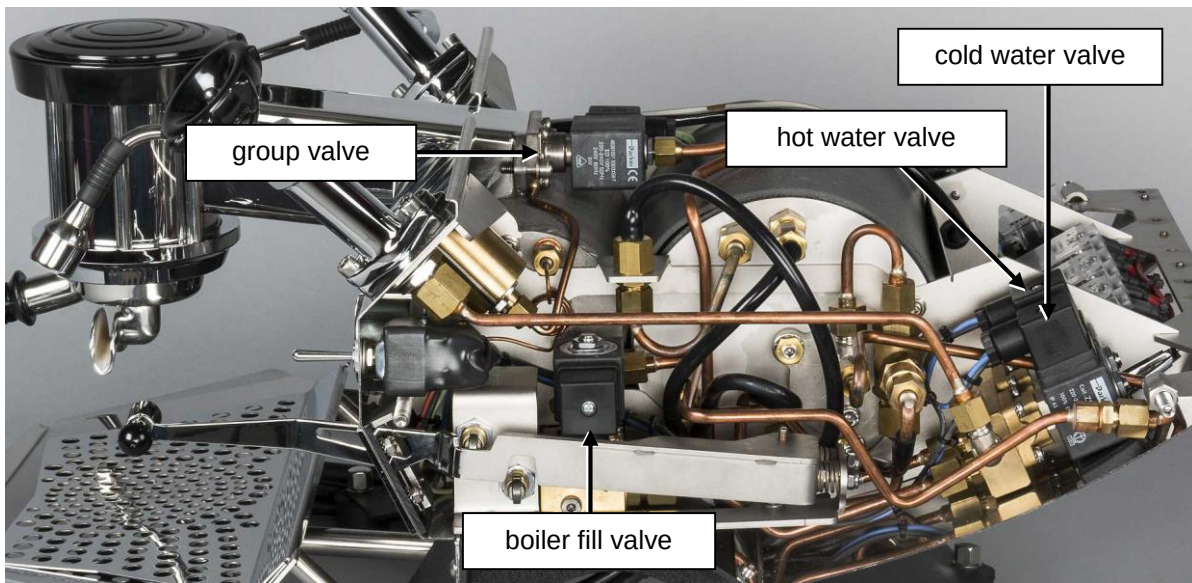
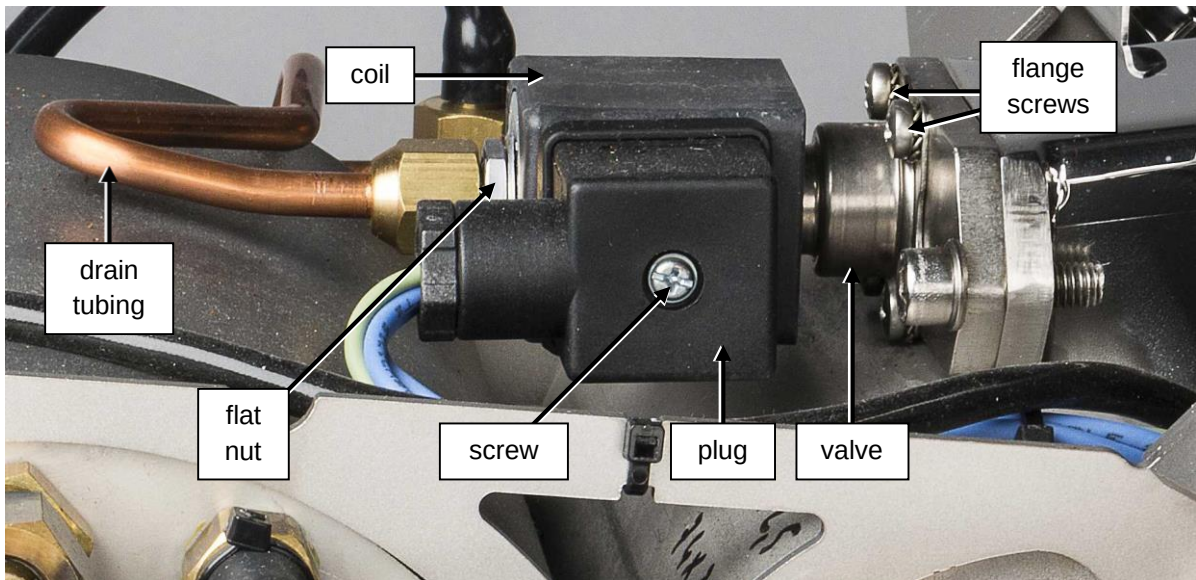

Figure M 18. Showing the Speedster with side and upper panels removed. Location of solenoid valves as indicated.
Figure M 19. Detail of (3-way) group flange valve.
9. Remove screw from electrical plug on valve with Phillips screw driver no. 1 (see Figure M 19). (Turn the group valve coil and plug such that you can reach the screw, if necessary loosen the flat nut on top of the coil a little with spanner 14 mm.)
16. Remount electrical plug, note position of plug (see *Figure M 19* and *Figure M 18*).